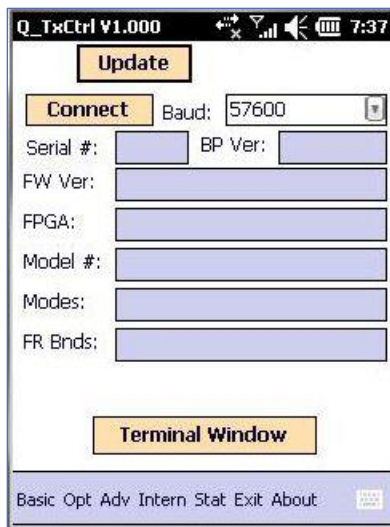

Figure 9: TxCtrl Screen
5. After the Handheld Programmer boots up, it should automatically open the Quasonix Transmitter Control application, as shown in Figure 9.